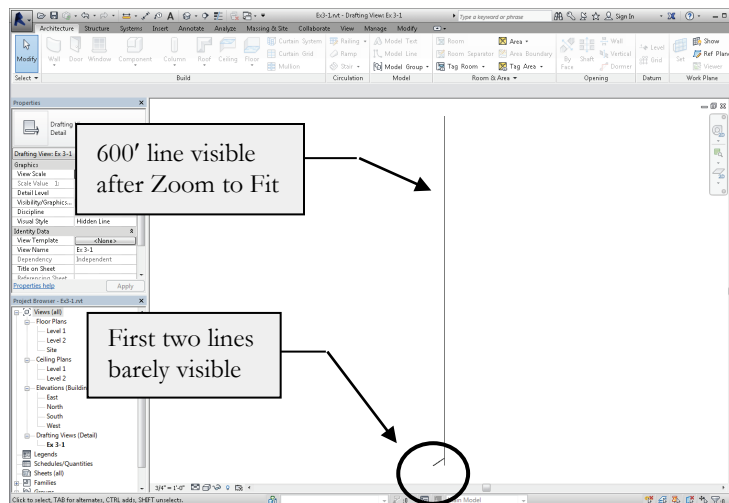

FIGURE 3-1.13 Detail view with three lines
34. Use **Zoom to Fit** to see the entire drawing (Fig. 3-1.13).